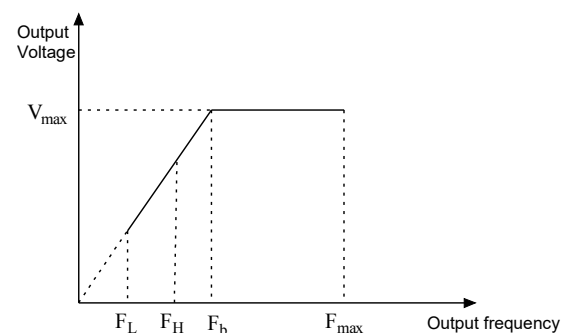

Fig.6-1 Characteristic parameters
Max output frequency is the highest permissible output frequency of the drive, as shown in Fig. 6-1 as $F_{\max}$;
Max output voltage is the highest permissible output voltage of the drive, as shown in Fig. 6-1 as $V_{\max}$
Upper limit of frequency is the highest permissible operating frequency of the user setting, as shown in Fig. 6-1 as F_H .
Lower limit of frequency is the lowest permissible operating frequency of the user setting,as shown in Fig.6-1 as F_L .
Basic operating frequency is the Min. frequency when the drive outputs the max voltage in V/F mode, as shown in Fig. 6-1 as F_b
4. The Max. output frequency,upper limit frequency and lower limit frequency is as shown in Fig.6-1.